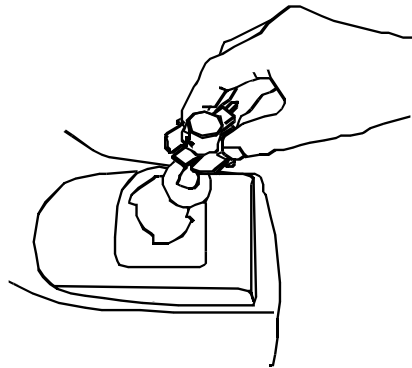

Figure 4-7
3. Rotate the socket assembly approximately a ¼-turn to align the socket tab with the reflector housing notch; then withdraw the bulb and socket assembly from the reflector housing. See Figure 4-7.
5. Align a locking post of the bulb base with the notch in the socket, then push the bulb inward and turn clockwise to lock. See Figure 4-7.